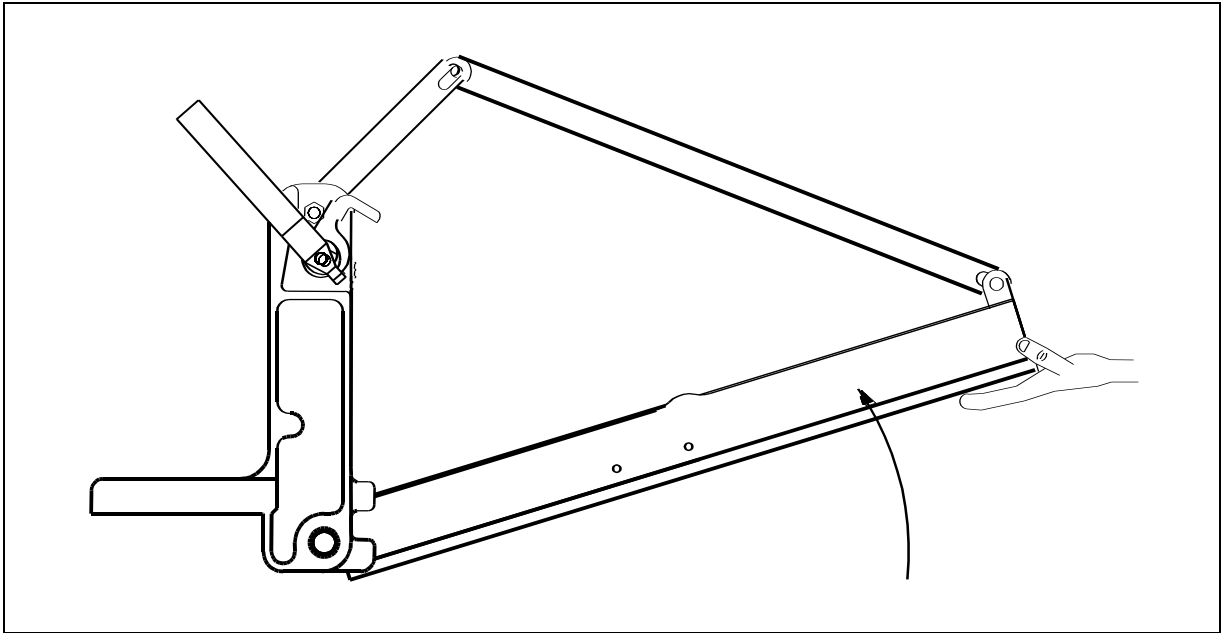

Figure 8 - Raising the Platform to Attach the Tension Straps
1. Lift the LycoLoader platform by the T-Section, supporting it until the angle of the slot in the tension strap long arm matches the angle of the platform T-Bolt, see Figure 8 above.